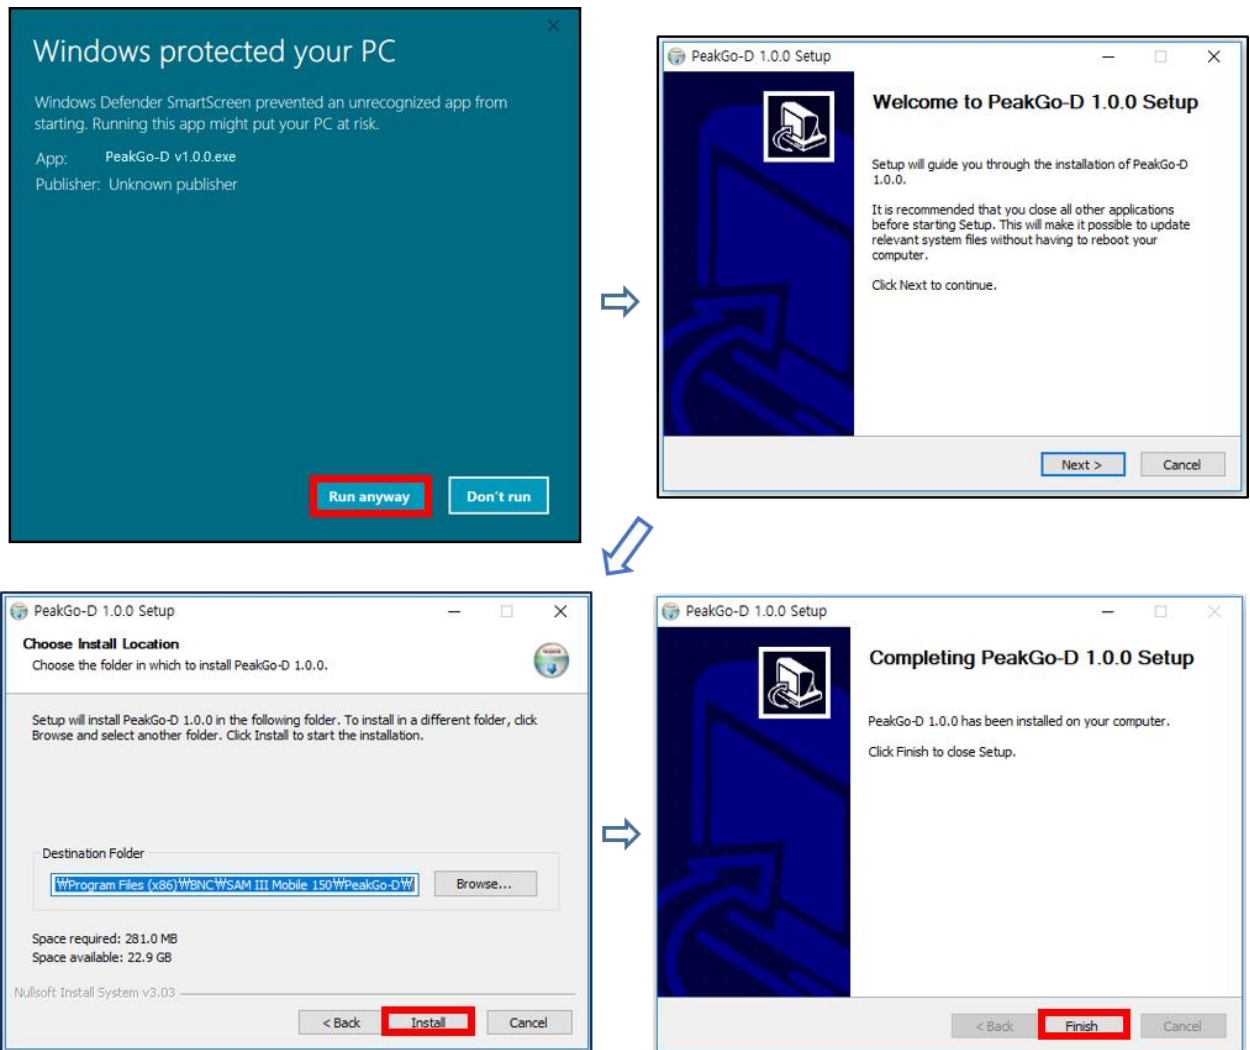

Figure 4.4. PeakGo-D Installation Example
2. Double click “PeakGo-D Setup” file (refer to figure 4.4 below)
3. Follow the easy steps in figure 4.4 to install “PeakGo-D” to the Tablet PC